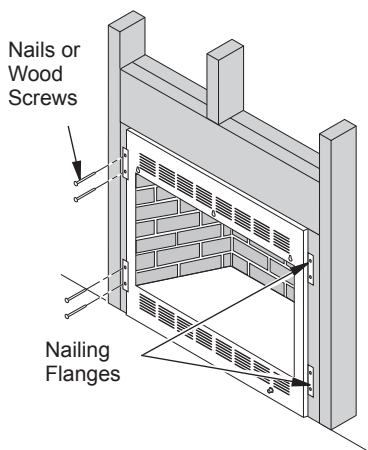

Figure 23 - Attaching Firebox to Wall Studs
- Attach firebox to wall studs using nails or wood screws through holes in nailing flange (see Figure 23).